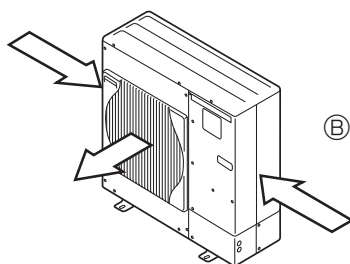

Fig. 1-4
- ③ Position the unit so that the outlet air can blow at right angle to the seasonal wind direction, if possible. (Fig. 1-4)